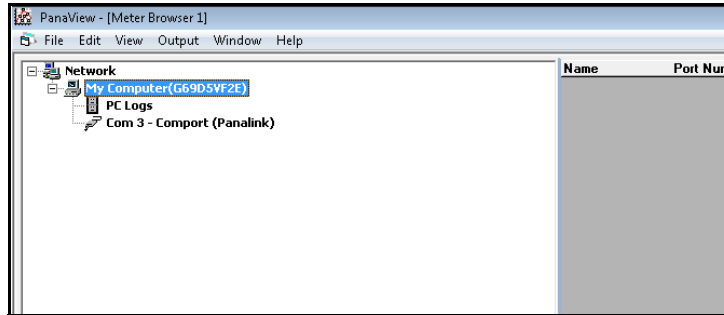

Figure 33: Added New Communication Port to Network Tree
6. Wait a few seconds for the information to be processed and registered (the buttons are greyed out during this period). The new successfully created communications port will be added to the network tree as shown in *Figure 33* below.